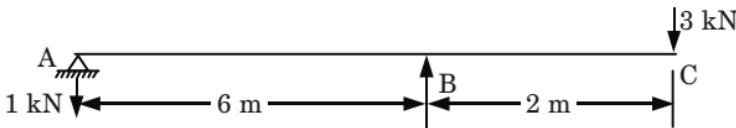

Fig. 3.6.1.
- Q. 6.** Determine the vertical deflection at the free end and rotation at A in the overhanging beam shown in Fig. 3.6.1. Assume constant  $EI$ . Use Castiglano's method.